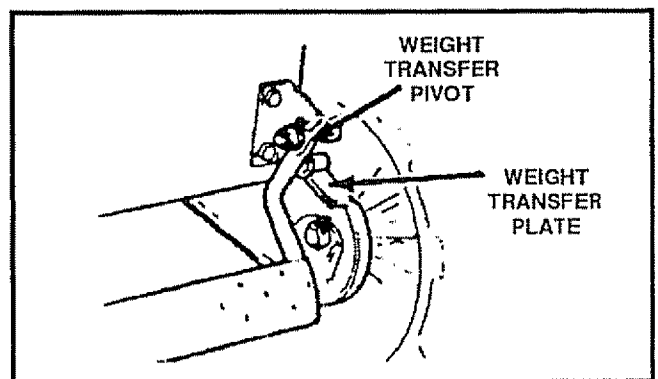

FIG. 15
- Weight Transfer System - Coat weight transfer plate (See Fig. 15) with clinging type grease, such as lubriplate, every ten (10) hours and before storage.